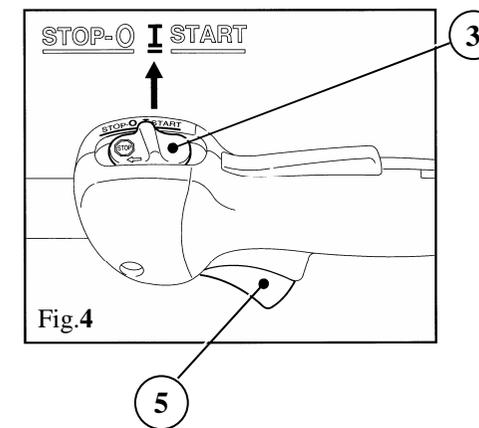

Fig.4
- ❹ Once the engine starts running, press the accelerator trigger lightly. The slide control returns to its normal operating position **I** and the engine switches to idling speed (Fig.4).
- ❺ Leave it running at idle speed for a short time until the engine speed stabilizes and the engine warms up. If the choke lever was put in the CLOSE position to start the engine, gradually move the choke lever to the OPEN position as the engine warms up.